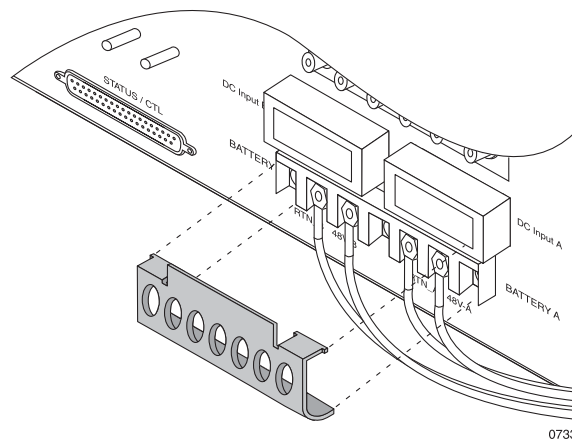

Figure 11 *Installing the Plastic Safety Cover*
6. If you removed the plastic safety cover, install it over the DC terminal block; see Figure 11.